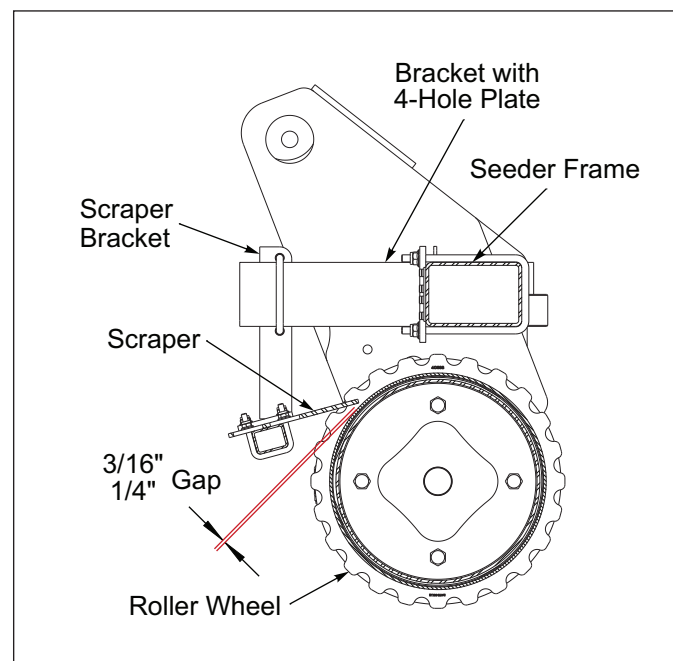

Figure 5-16: Scraper Dimensions
4. Adjust the Scrapers as needed to achieve a $\frac{3}{16}$ " to $\frac{1}{4}$ " gap between the Scrapers and Roller Wheels. **See Figure 5-16.** Scrapers should be close enough to the Roller Wheels to be functional but without interference.